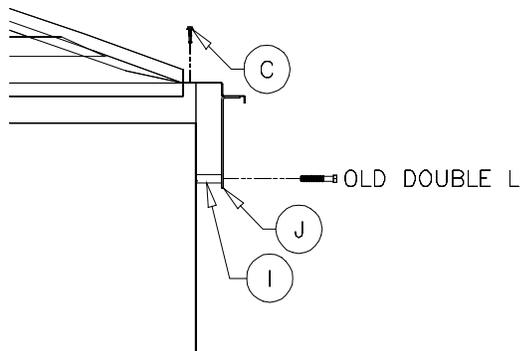

Figure 8
Procedure: The locking flange (H) is mounted either to the top or side (See Figure 8) or side (See Figure 5-7) of the box wall. This will depend on the make of the box you have. Pre-drill holes every 15" apart using a 3/16" drill bit. Secure using the 1/4"x1" lag screws (C) provided. The locking flange must run the entire length of the sidewall. The front locking flange may need to be notched in order to accept the sidewall latches. In most cases, this must be done on the rear as well.